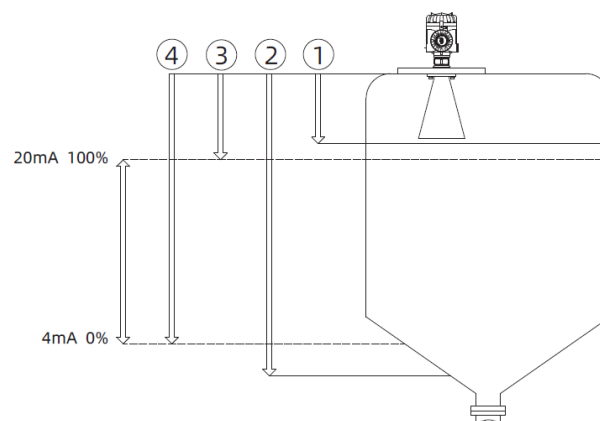

Figure 10 Diagram of Parameter Setting
7.2.1 Diagram of Parameter Setting-Figure 10